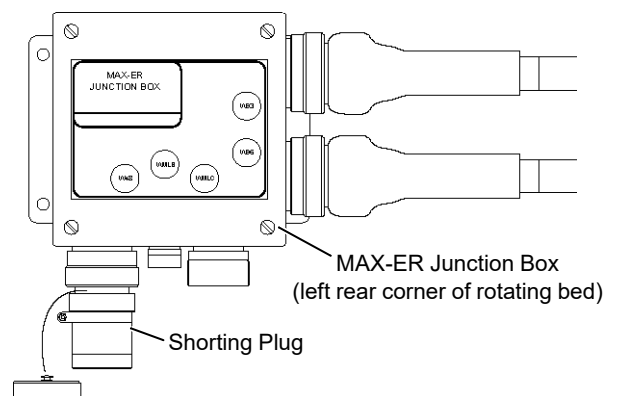

FIGURE 3-46
**NOTE:** If you don't install the shorting plug at the MAX-ER junction box (Figure 3-46) when you remove the MAX-ER attachment, the controller will assume the MAX-ER is still attached.